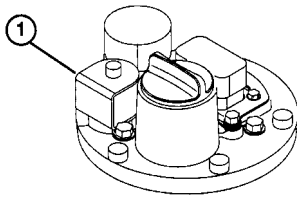

Figure 23
- Valve open circuit light blinking: Check/replace the electric solenoid valve (Fig. 23) or wires.
- Valve short circuit light blinking: Check/replace the electric solenoid valve (Fig. 23) or wires.